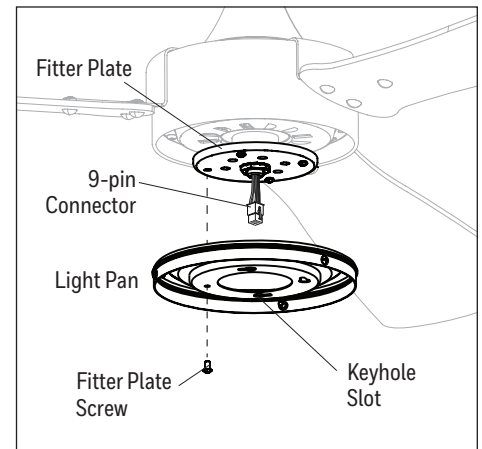

Figure 5.6
6. Remove one of the four fitter plate screws preassembled to the fitter plate and loosen the other three but do not remove. Feed the 9-pin connectors through the center hole in the light pan. Align the keyhole slots in the light pan with the loosened screws in the fitter plate. Turn light pan clockwise and replace the previously removed fitter plate screw. Tighten all screws (Figure 5.6).